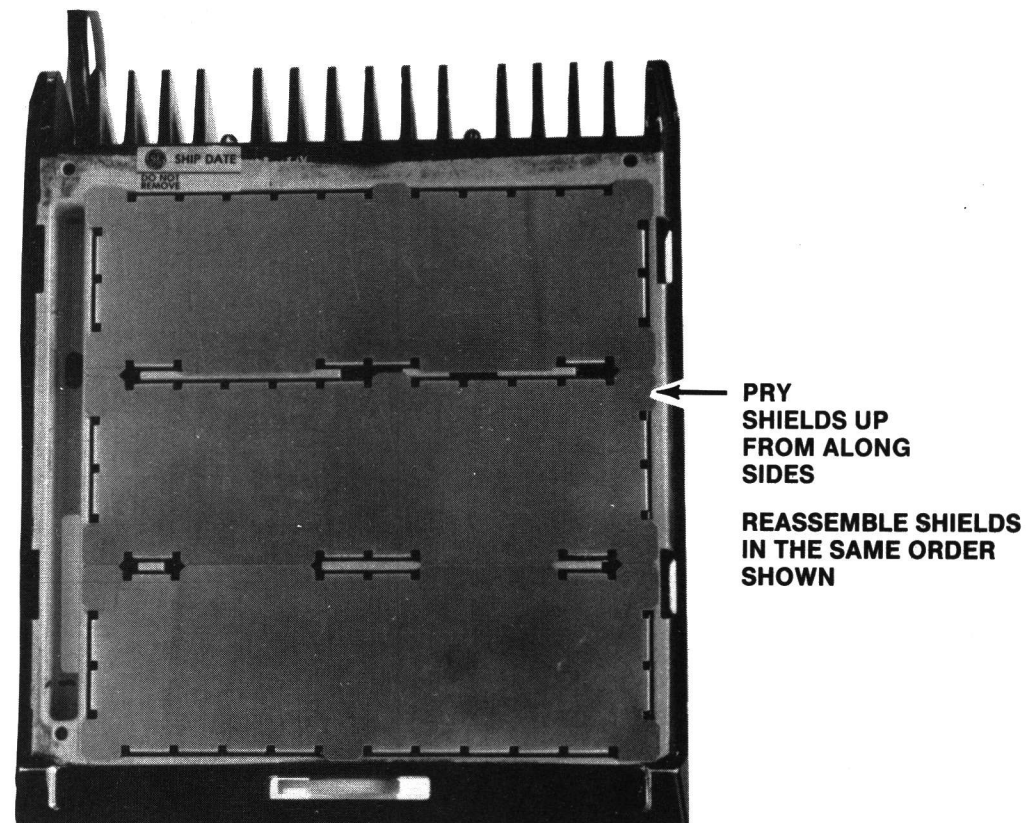

Figure 6 - Removal of the Bottom Shields
**Removal of the Bottom Cover: (Refer to Figure 6)**